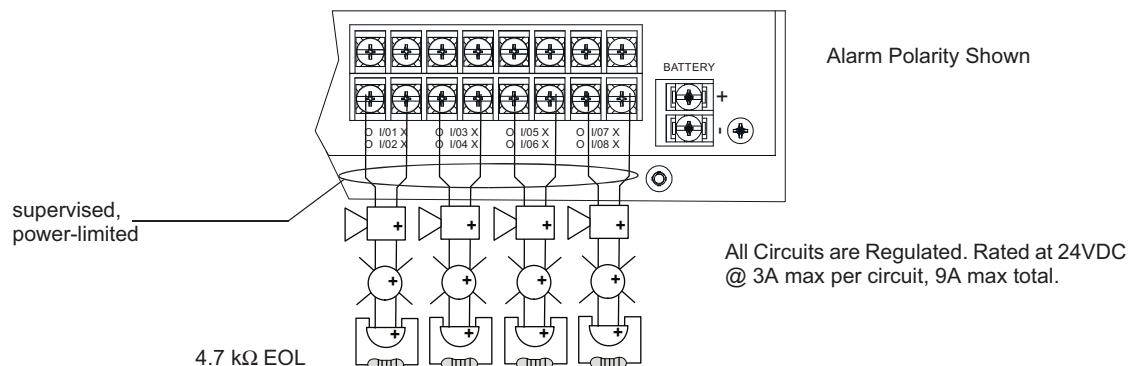

Figure 4.46 Class B Notification Appliance Circuit Wiring
1. Wire Class B notification appliances as shown in Figure 4.46.